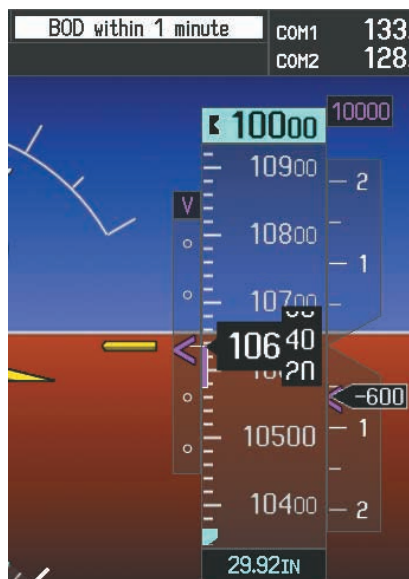

Figure 5-141 Approaching Bottom of Descent (BOD) at OPSHN Offset Waypoint
- 17) When the aircraft is one minute from the bottom of descent (BOD) it is annunciated as shown in Figure 5-141. Upon reaching the offset waypoint for OPSHN, the aircraft is at 10,000 feet.